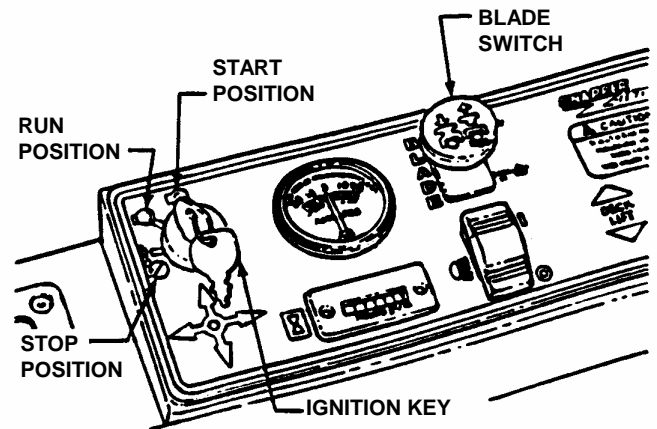

FIGURE 2.6
6. Turn key to the start position until engine starts. See Figure 2.6.
1. Stop engine by turning key to the "OFF" position. Move engine speed control to turtle "SLOW" position and key to "STOP" position. See Figure 2.6.